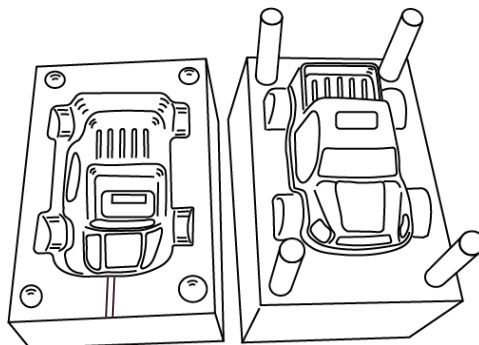

Figure 5
- c. Figure 5 shows the mould of a toy vehicle to be manufactured in industry.